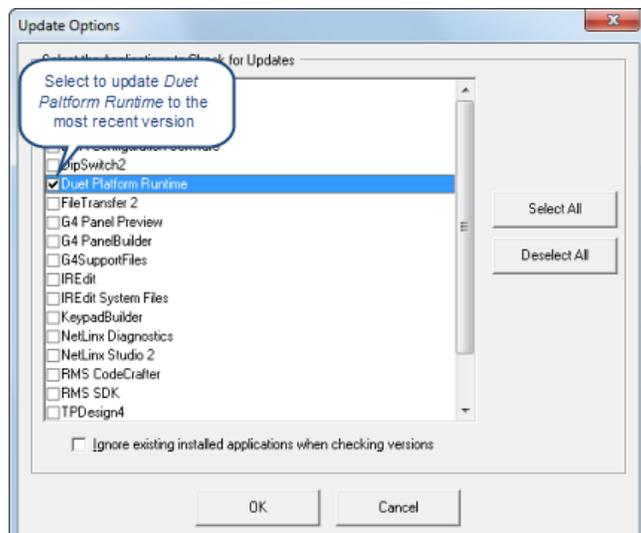

FIG. 95 WebUpdate - Update Options dialog
- In the *Update Options* dialog, select **Duet Platform Runtime** (FIG. 95):